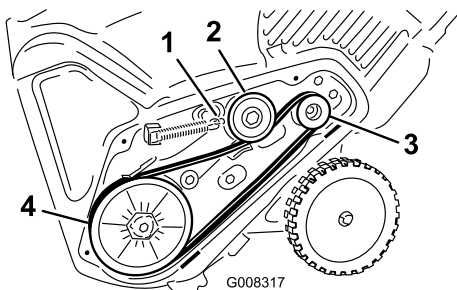

Figure 38
5. Install the new drive belt, routing it as shown in (Figure 38).
8. Install the brake spring onto the idler arm (Figure 38).